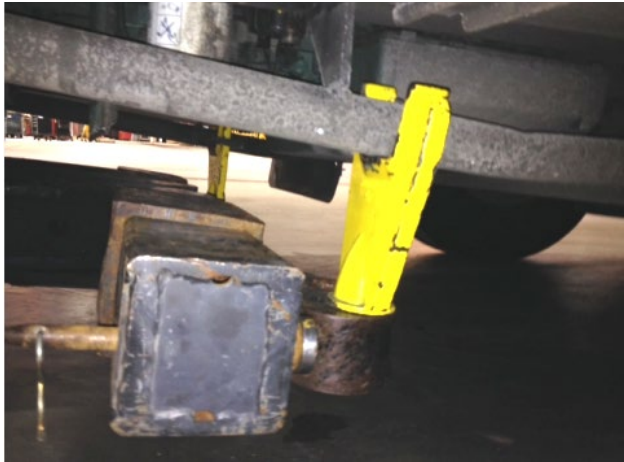

**FIGURE 60:** REAR TOW EYES ON SIDE MEMBERS LOCATED UNDER ENGINE CRADLE SUPPORT RAILS
- 5. Deploy the tow truck stinger arm. Place the axle forks under the rear tow eyes if equipped or under the side members (Figure 60).